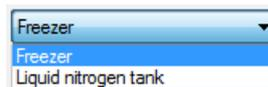

Figure 43. Drop-down list **Freezer type**
- **Freezer type** field contains a drop-down list with 2 items Freezer and Liquid nitrogen tank (Fig.43).